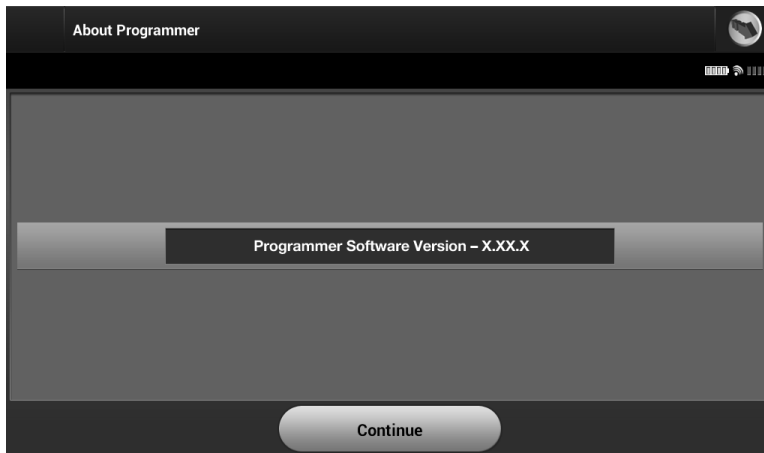

Figure 12: *Programmer Software Version information screen*
1. Select About Programmer on the Programmer Settings screen. The Programmer Software Version information screen appears (Figure 12).